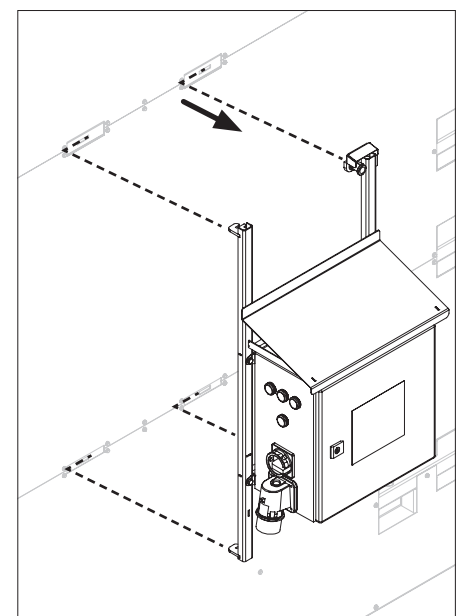

Fig. D2.03
3. Remove the switch cabinet from the front. (Fig. D2.03)